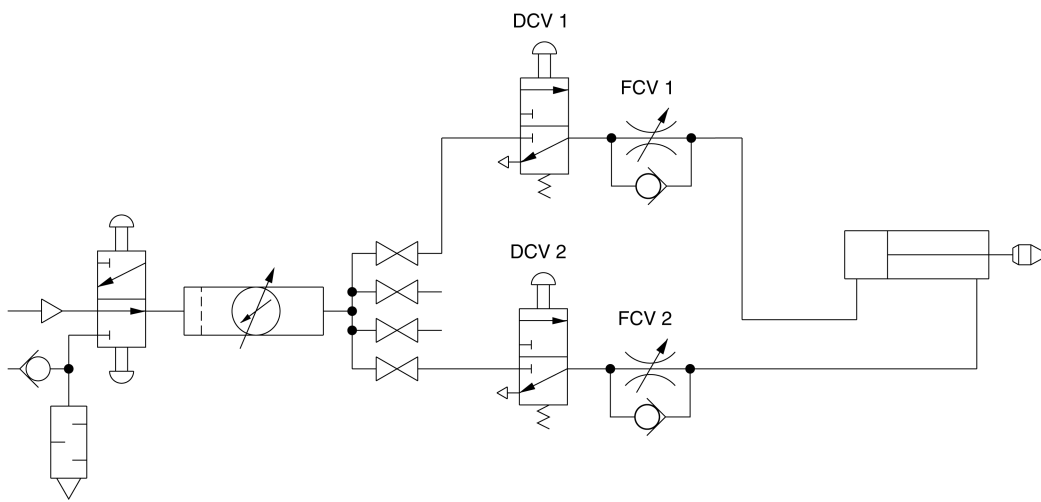

Figure 3-15. Schematic Diagram of a Circuit Using Speed Control Both Directions
- ☐ 26. Modify your circuit as shown in Figure 3-15. Be careful to connect the Flow Control Valves in the correct direction.
- ☐ 27. Referring to the schematic diagram shown in Figure 3-15, indicate if the circuit is connected in a meter-in or meter-out configuration.